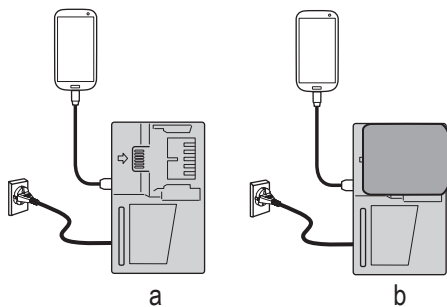

Fig. 23
- Charging a USB device from a electrical outlet. (**Fig. 23-a**)
- Charging a USB device and battery from an electrical outlet. (**Fig. 23-b**)